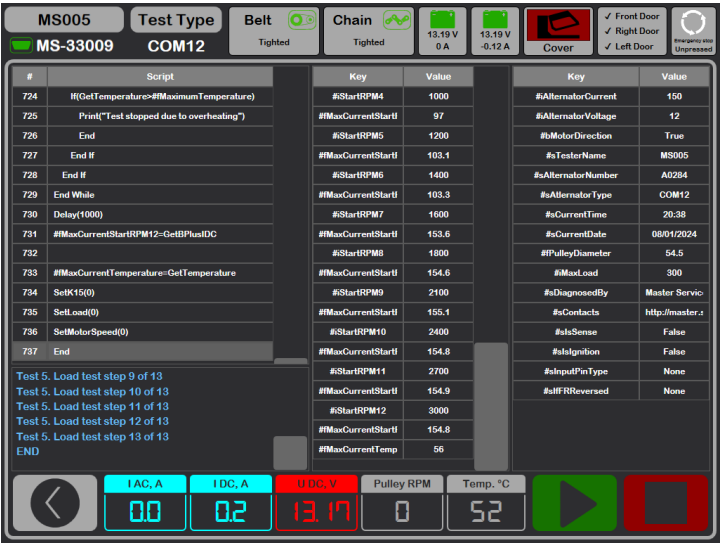

Figure 27. Menu of the automatic test mode
6. To start the test, press the button  in the opened window (see Figure 27). Then, the bench will automatically perform all checks according to the selected script. If necessary, the test process can be interrupted by pressing the button .